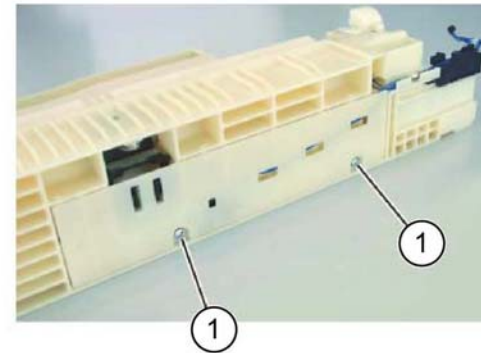

Figure 2 Bypass tray lower cover
3. Remove two screws (1) that secure the bypass tray lower cover at the bottom of the bypass tray, Figure 2.